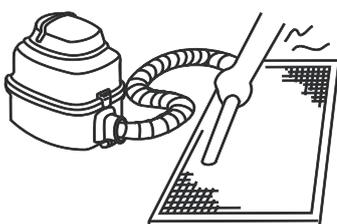

Figure 15.3
- The air intake side should face up when using a vacuum cleaner. (Refer to Figure 15.3)